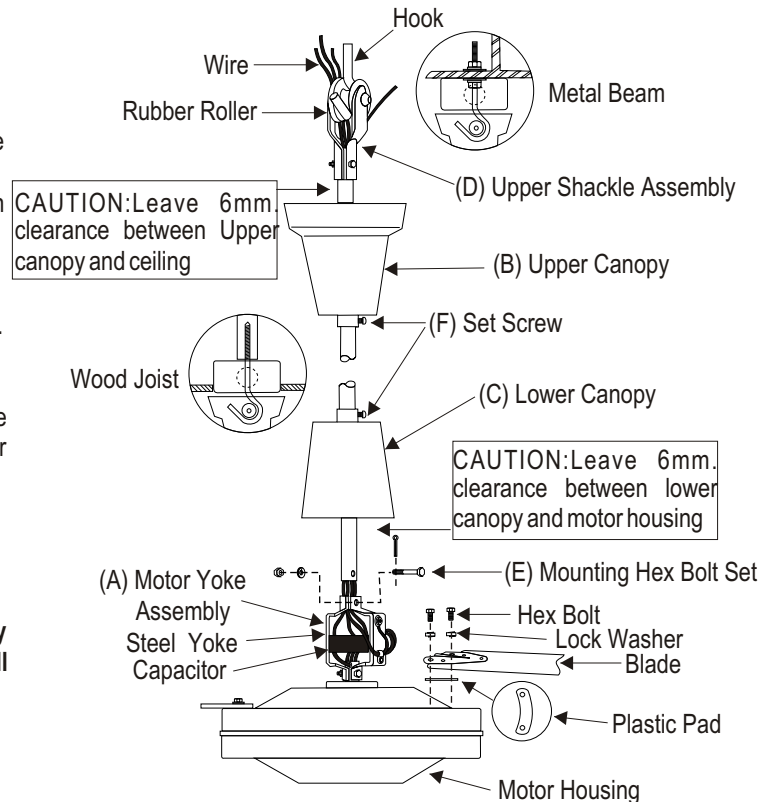

Figure 1.
2. At the motor yoke assembly (A), remove the cotter pin and loosen the hexagon nut. Carefully remove spring washer and the hexagon screw (E) (See Figure 1)
3. Slide the upper canopy cover (B) (Bell shaped) up the rod. Slide the lower canopy cover (C) up the rod.
4. Feed the three wires and the safety cable through the center hole in the steel yoke connecting piece above the motor (A) and then continue feeding wires and cable through the downrod until the Wires and cable come out at the upper (shackle) end.
5. Mount the downrod to the yoke (A) and replace the hexagon screw. Secure the spring washer hexagon nut and spread the cotter pin.
CAUTION: Blade must be fastened to the motor as shown in Figure 1. DO NOT reverse blade when installing.